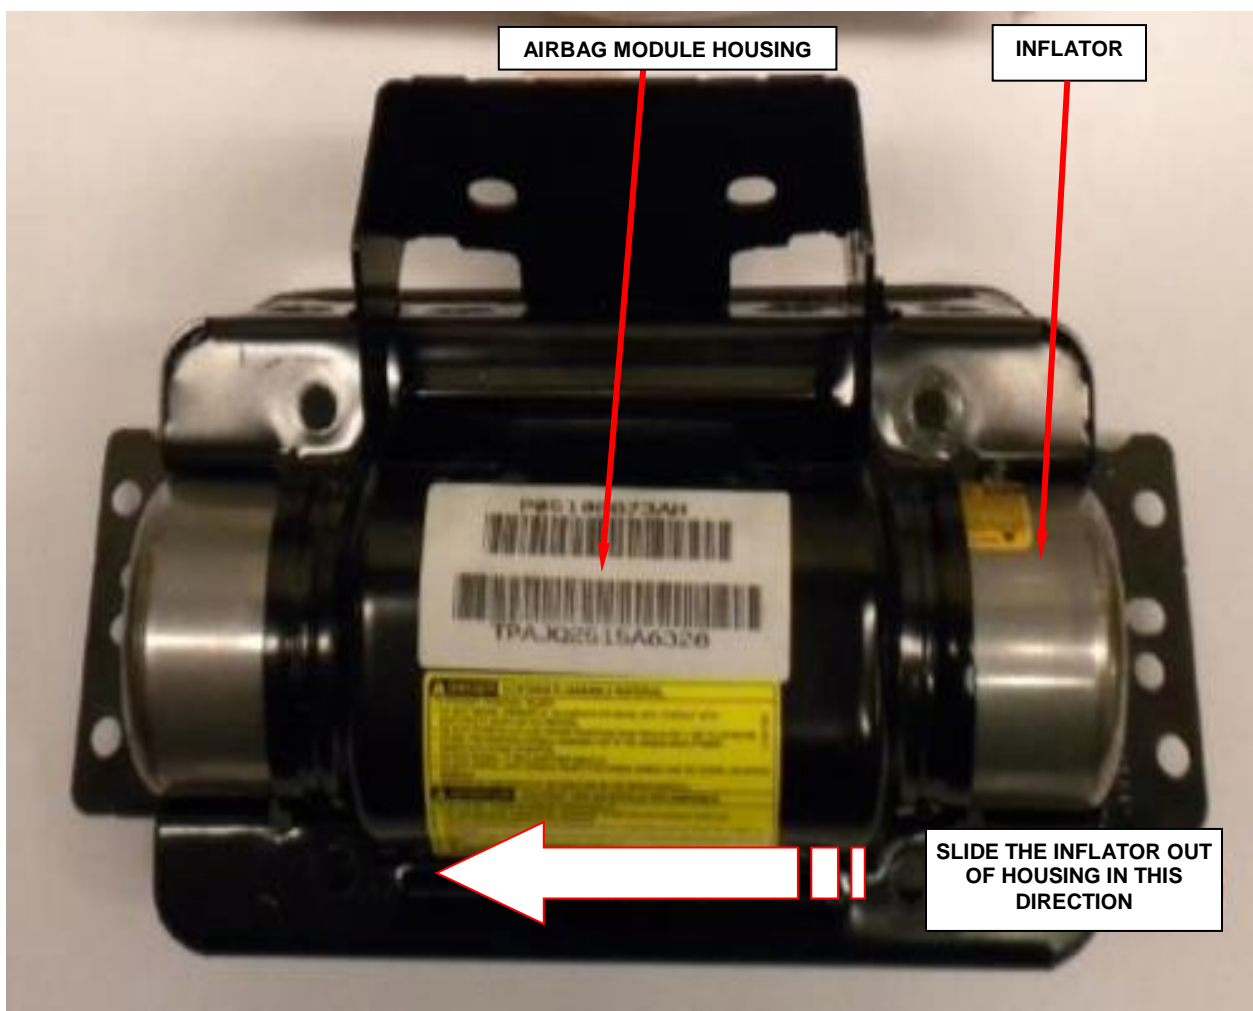

Figure 66 – Remove Airbag Inflator
- d. Slide the inflator out of the passenger airbag module housing (Figure 66).